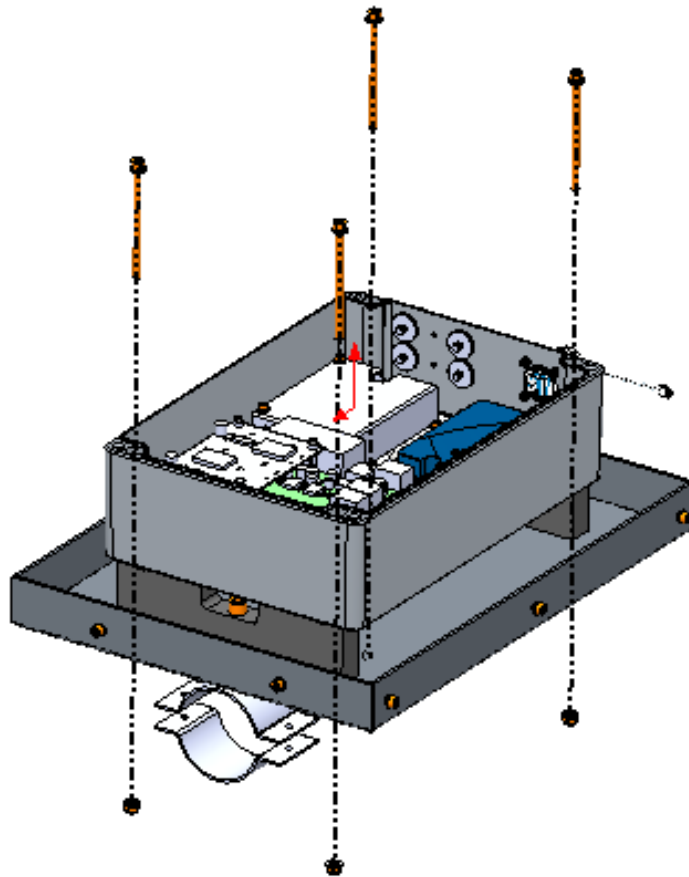

Figure 8 Open the lid of the FTS mast unit box
2. Unscrew the 4 screws from the lid of the FTS box and open the FTS cover (see Figure 8).